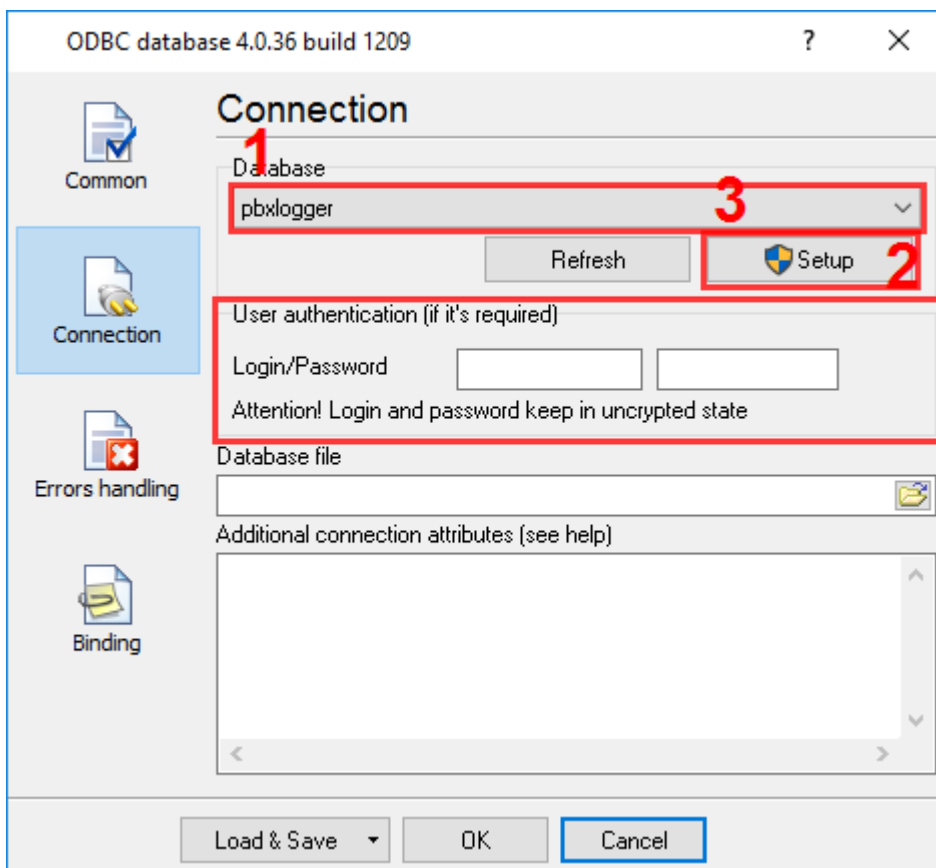

Figure 4. Selecting an ODBC data source
8.1. If you already have an ODBC data source, select it from the list (Figure 4).